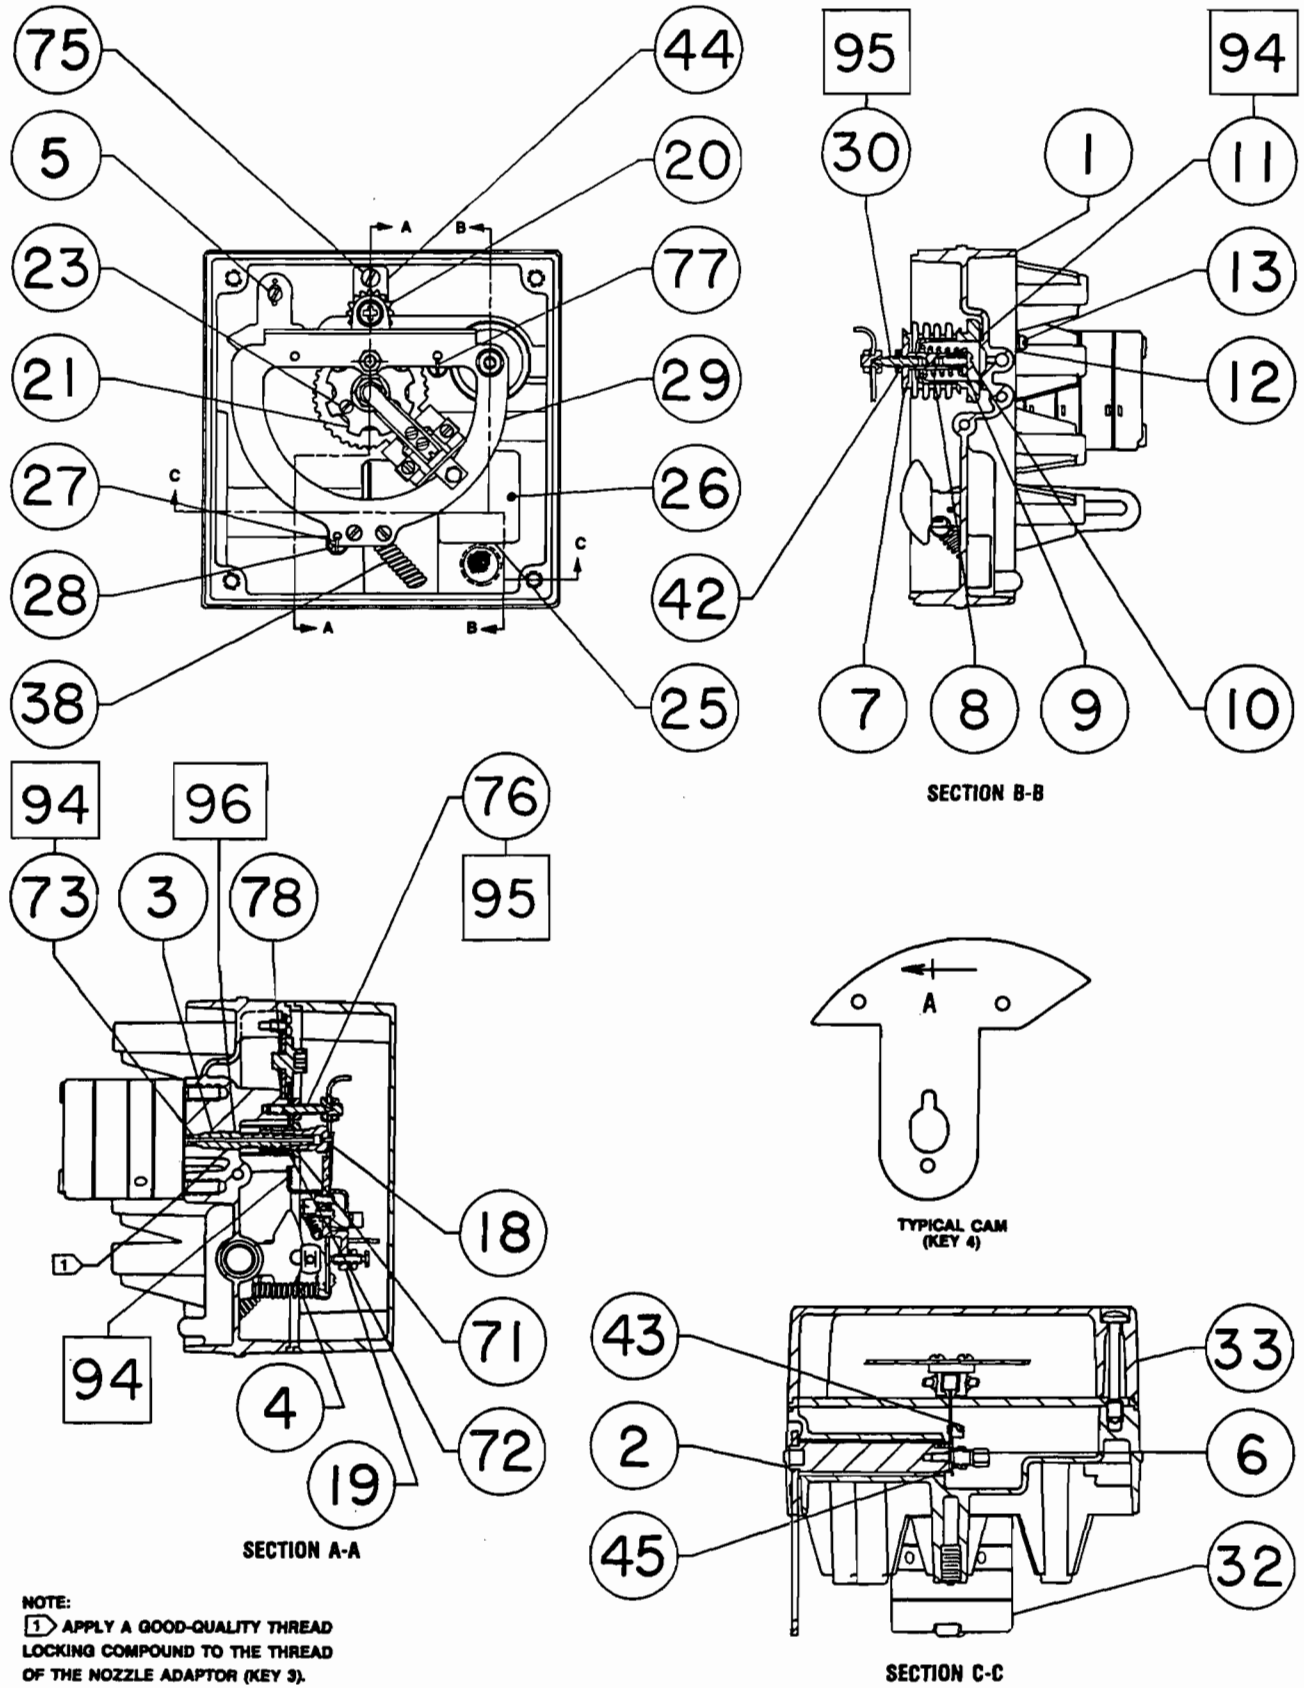

Figure 20. 3582 and 3583 Series Positioners and Transmitters Assembly Drawing
5. If necessary, remove the Type 67AFR regulator by removing the two screws (key 13). Then, remove the regulator from the converter assembly. Inspect the O-ring (key 3) and replace it if necessary. Apply lubricant (key 15) to the O-ring before replacing.
6. Remove the two screws (key 11) holding the Type 582i converter to the valve positioner case. Remove the converter from the valve positioner case (key 1 in figure 20). Inspect the gasket (key 20) and replace it if necessary.
When replacing either extension spring (key 27 or 77 in figure 20), check the springs being used in the valve positioner or valve stem position transmitter. If one of the springs has a red color code and the other has a yellow color code, either spring could be replaced independently. If the springs being used do not have color codes, both springs must be replaced.
## Positioner/Transmitter Common Parts (figure 20)